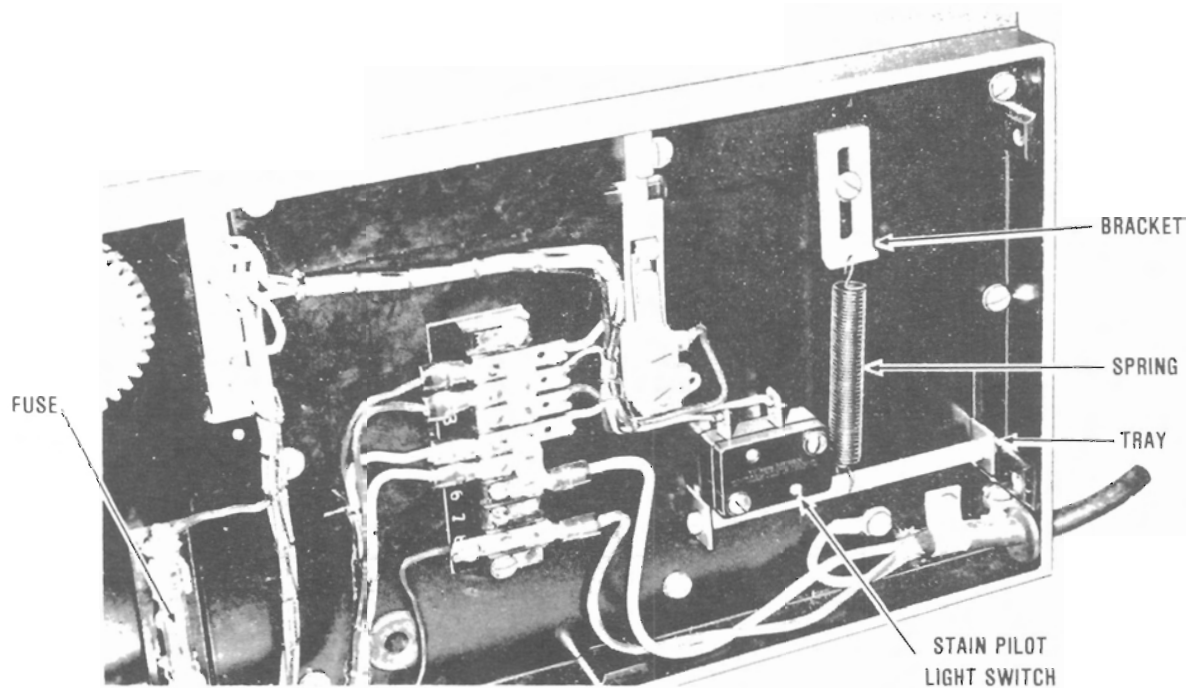

Figure 8-8
2. Loosen screw and slide spring bracket up or down to adjust tension on spring. (See Figure 8-8.)